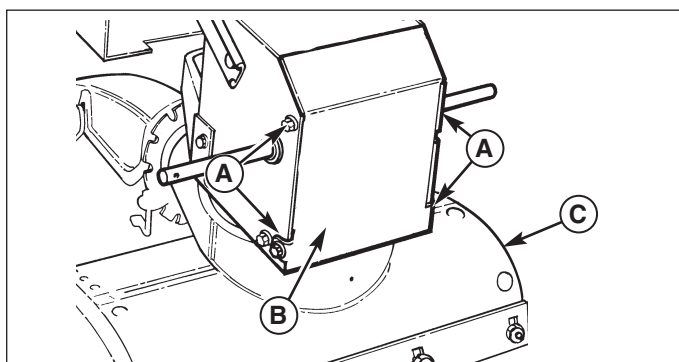

Figure 5. Bottom Cover
4. Stand snowthrower on the front of the auger housing (C, Figure 5).
5. Remove the capscrews (A) on each side of the bottom panel (B).
6. Remove the bottom panel (B).
- Install the bottom panel (B, Figure 5) and tighten the capscrews (A).